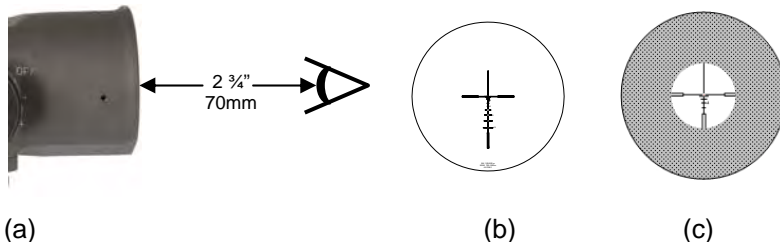

Figure 2-2: Proper Eye Relief
- Slide the sight along the rail until the correct eye relief is achieved for the user's natural head position and a full field of view is visible through the sight. Approximate eye relief is 70mm (2.75"). The field of view tunnel effect should be minimized when the eye relief is adjusted properly, producing a circular and sharp image (see Figure 2-2).